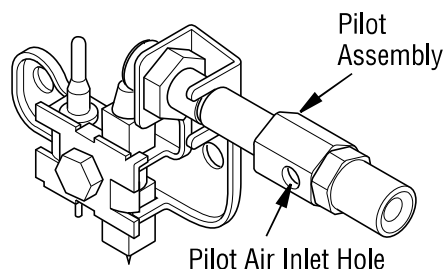

Figure 73 - Pilot Inlet Air Hole
6. In case any large clumps of dust have now been pushed into the burner repeat steps 3 and 4. Clean pilot assembly also. Additional cleaning may be needed for proper pilot operation based on use/lack of use. A yellow tip on the pilot flame may indicate dust and dirt in the pilot assembly. There is a small pilot air inlet hole about from where the pilot flame comes out of pilot assembly (see **Figure 73**). With unit off, lightly blow air through air inlet hole. You may blow through a drinking straw if compressed air is not available.